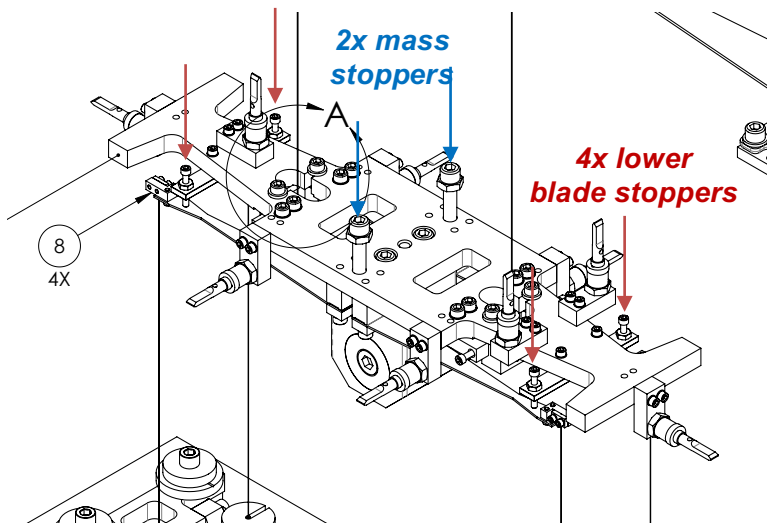

Figure 2: Stoppers on the upper suspended mass (D1201212)
- Fix the upper suspended mass with two mass stoppers and four lower blade stoppers (Figure 2).